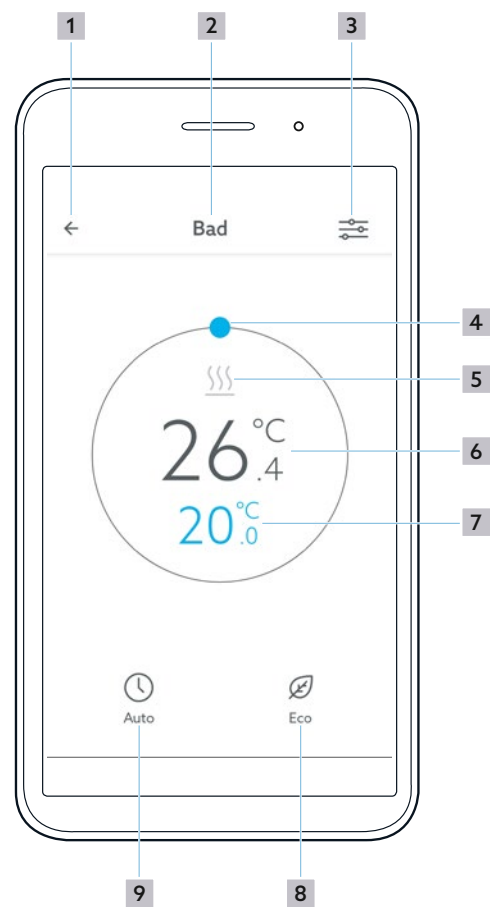

Fig. 14: ClimaCon F app - Room thermostat overview
- 1 Tap the key "Call-up of the Settings menu" on the overview screen of the room thermostat for which you want to make the settings (position 3 in Fig. 14 on page 14).